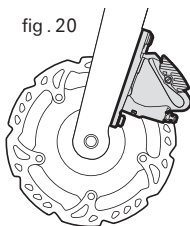
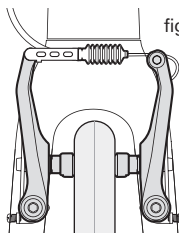

fig. 20
fig. 21
1. If your bike has rim brakes, disengage the brake's quick-release mechanism to increase the clearance between the tire and the brake pads (See Section 4.B fig. 21 through 24).
nism to increase the clearance between the wheel rim and the brake pads (see Section 4.B, figs. 21 through 24).
- 3) Some bicycle brakes, such as disc brakes (fig. 20) and linear-pull brakes (fig. 21), are extremely powerful. Take extra care in becoming familiar with these brakes and exercise particular care when using them.
the brake quick release is in the open position, the brakes are inoperative. Ask your retailer to make sure that you understand the way the brake quick release works on your bike (see figs. 21, 22, 23 & 24) and check each time to make sure both brakes work correctly before you get on the bike. Cervélo disc brake equipped bikes all utilize thru-axes, which eliminates the need for a brake quick release mechanism for wheel removal.